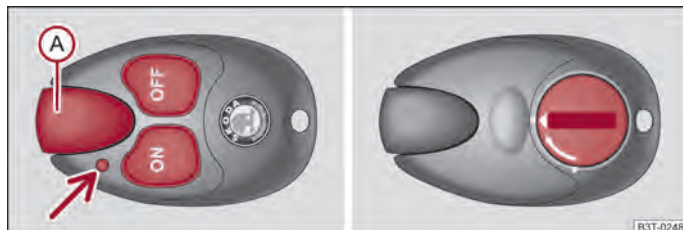

Fig. 94 Auxiliary heating: Radio remote control/bottom of the radio remote control with the battery cover
If the battery is properly charged, the effective range is up to 600 m. For switching on or off the auxiliary heating, hold the remote control vertically with the antenna  ⇒ **fig. 94** towards the top. You must not cover over the antenna with the fingers or the palm of the hand. Obstacles between the radio remote control and the vehicle, bad weather conditions and a weaker battery can clearly reduce the range.
The warning light in the radio remote control ⇒ **fig. 94** indicates after a keystroke if the remote control signal was received by the auxiliary heating and if the battery is adequately charged.
If the warning light of the radio remote control indicates a weak or discharged battery, ⇒ **fig. 94**, it must be replaced. The battery is located under a cover on the back of the radio remote control.
- Insert a flat, blunt object, such as a coin, into the gap of the battery cover, turn it against the direction of the arrow up to the mark, and unlock the cover ⇒ **fig. 94** - right.